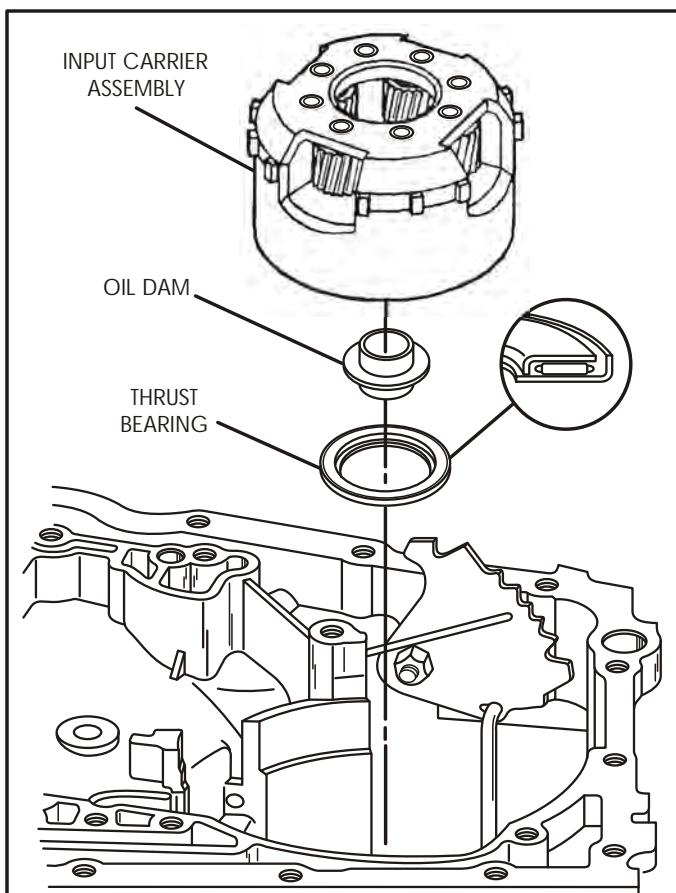

Figure 160
42. Install the oil dam into the input carrier and the thrust bearing into the input carrier in direction shown in Figure 160. Retain bearing assembly with petroleum.
43. Install the input carrier into case by rotating into position to engage the reaction carrier. Refer to Figure 160.